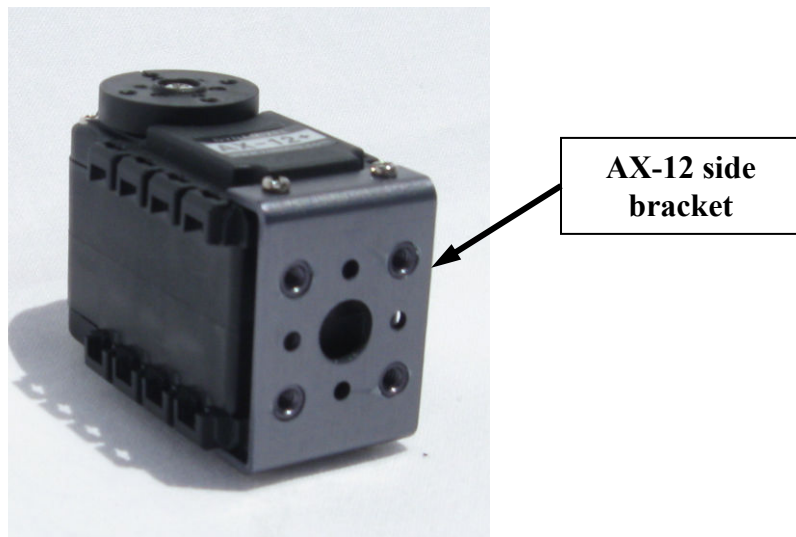

Figure 11
11. Using (4) 2mm screws, install the AX-12 side bracket to the AX-12/18 servo as shown in figure 11.